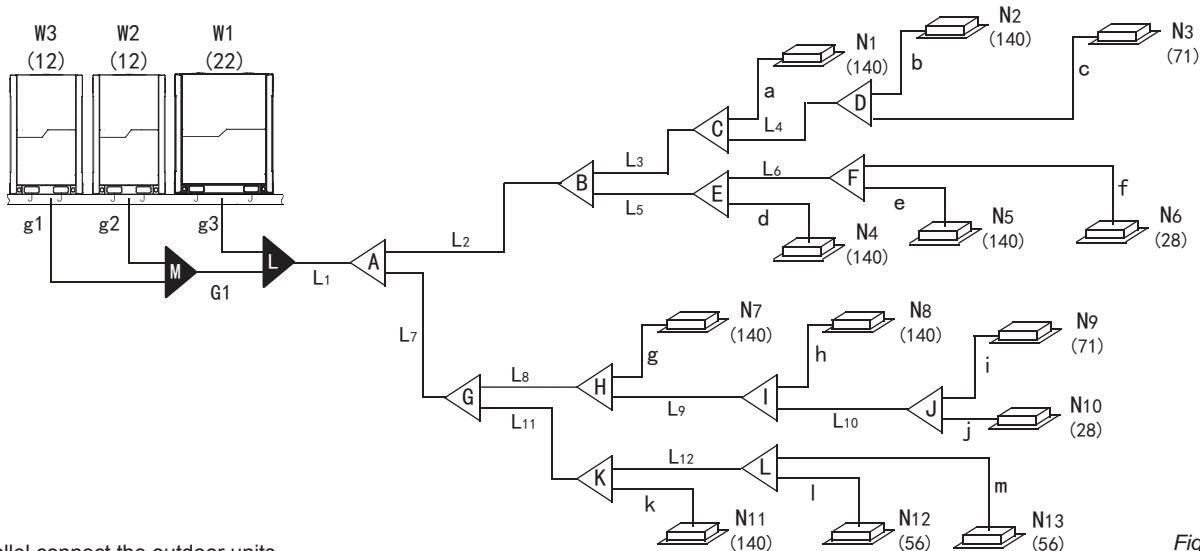

Fig.5-4
- Take Fig.5-4 as an example, where the equivalent length of all pipes is larger than 90 m.